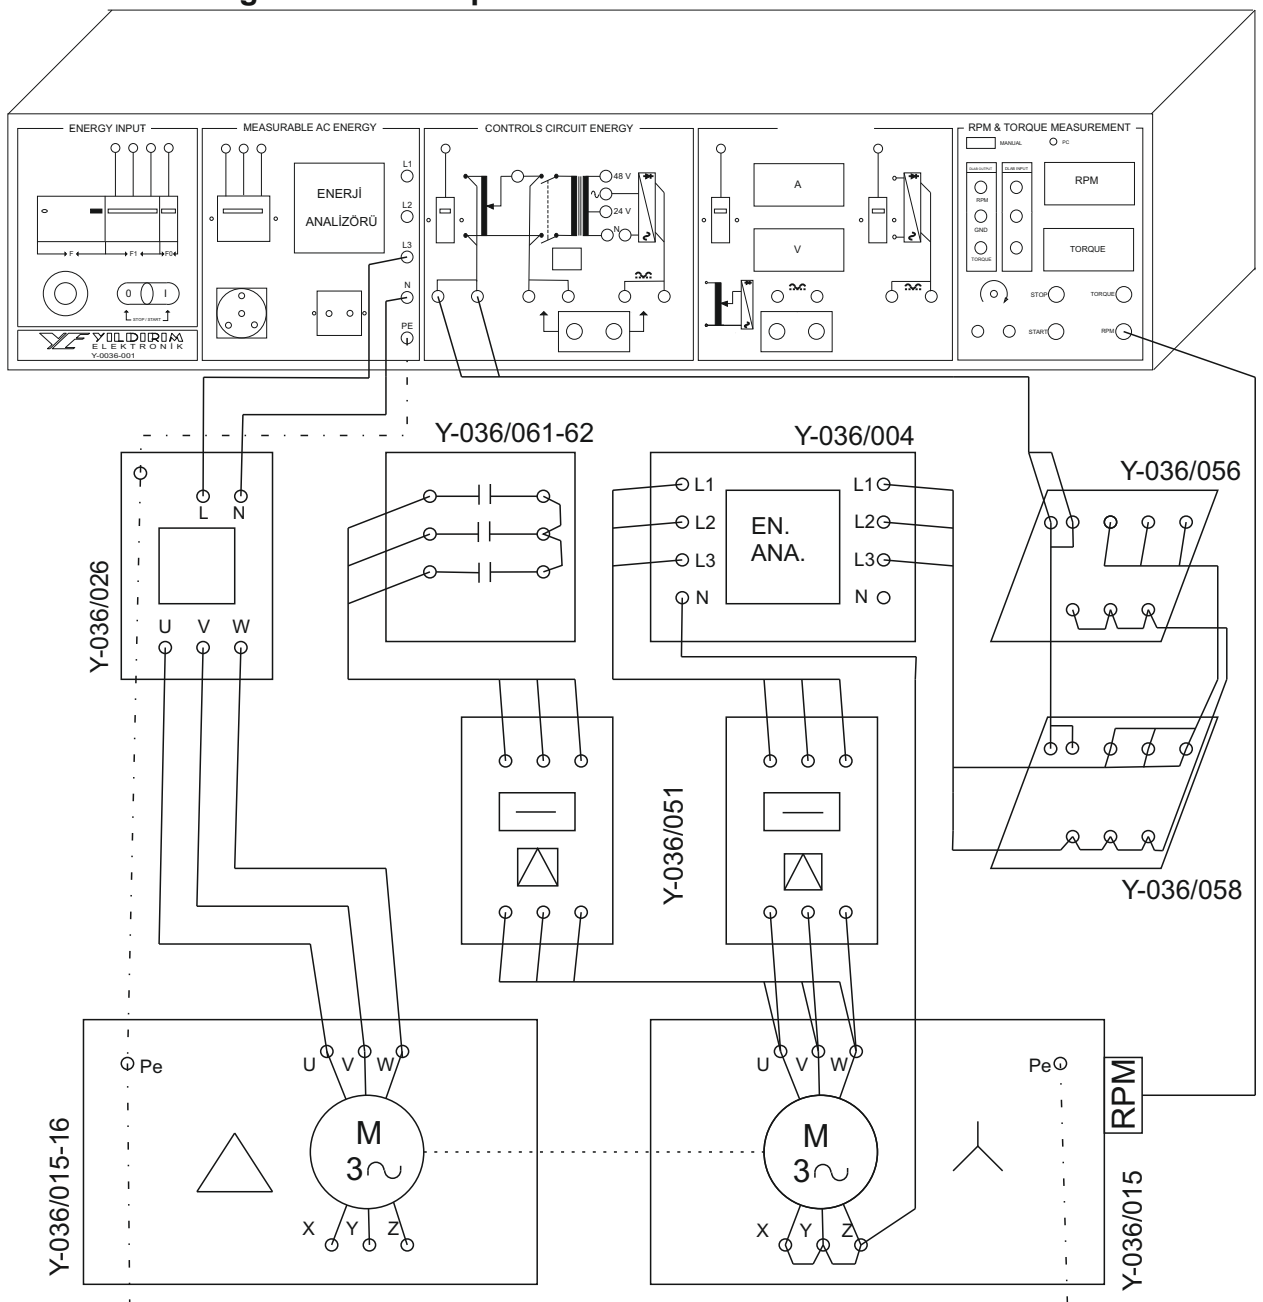

Figure 35.1: The experiment schema of operation of the asynchronous machine as a generator
- Establish the experimental circuit in the figure 35.1,35.2.